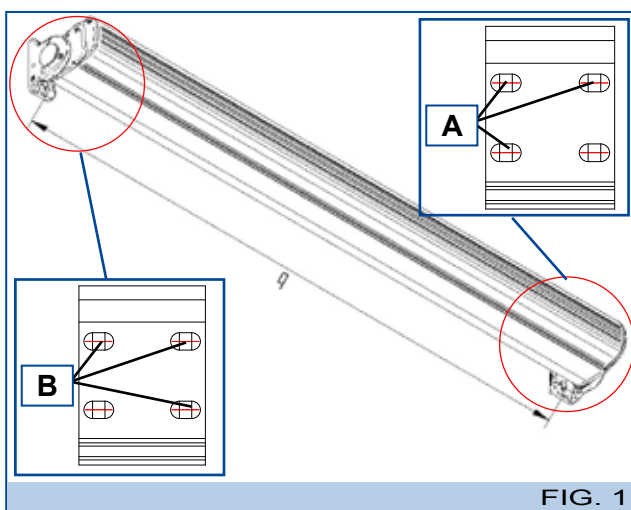

FIG. 1
- 3- The position of the holes is as shown in figure 1. For the right bracket use the holes (A), for the left bracket use the holes (B).